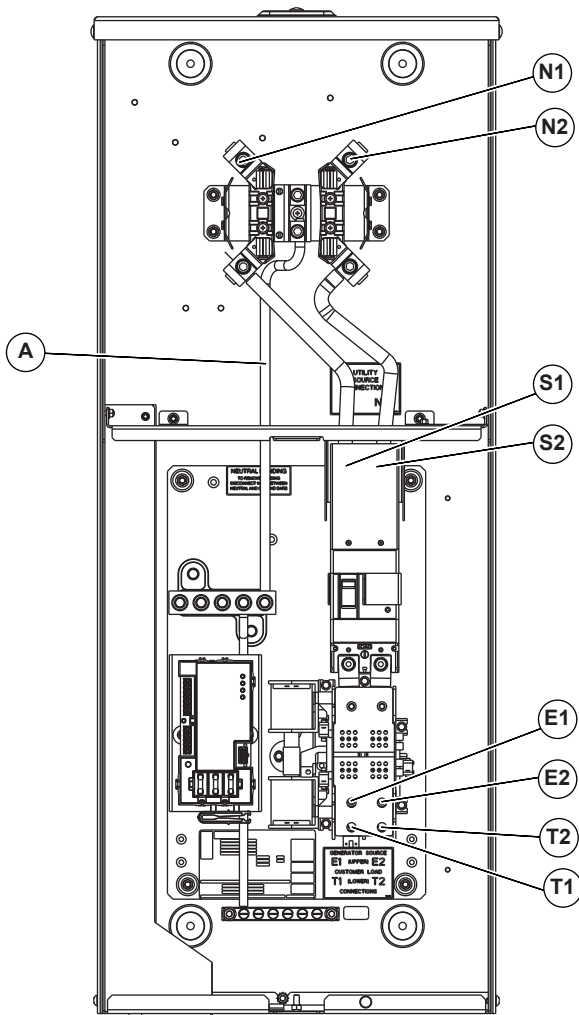

Figure 3-7. Wiring Connections
5. See Figure 3-7. Connect utility supply at the Four Jaw Meter Socket terminals N1 and N2. Follow torque specifications listed on the circuit breaker. Available utility entry points are the top or the bottom left.
6. Connect utility grounded conductor to the Upper Neutral and Ground terminals. Neutral and Ground terminals are bonded to each other with a jumper wire (A).
1. See Figure 3-7. Connect generator to the generator terminals (E1 and E2) on the transfer mechanism.